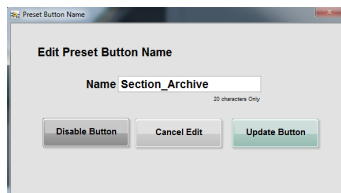

Figure 6. Edit Preset Button
3. Click in the white square checkbox on the right side of the screen and then click on one of the sample preset buttons. A window will open allowing the user to name the button (Figure 6). Chose **Update Button** once you have named the preset.